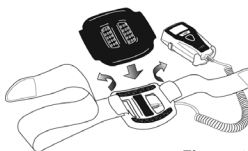

Figure 2
2. If unit is to be applied over a cast, remove liner pad. Otherwise, leave liner pad installed. (Figure 2)